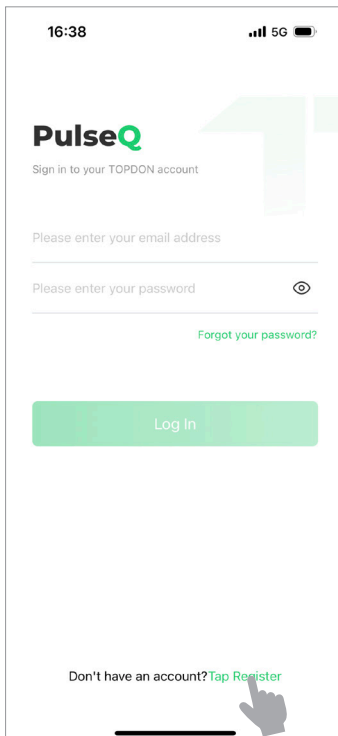

Fig. 5-1
1. Open the app. Select "Tap Register" at the bottom of the screen. (See Fig. 5-1)